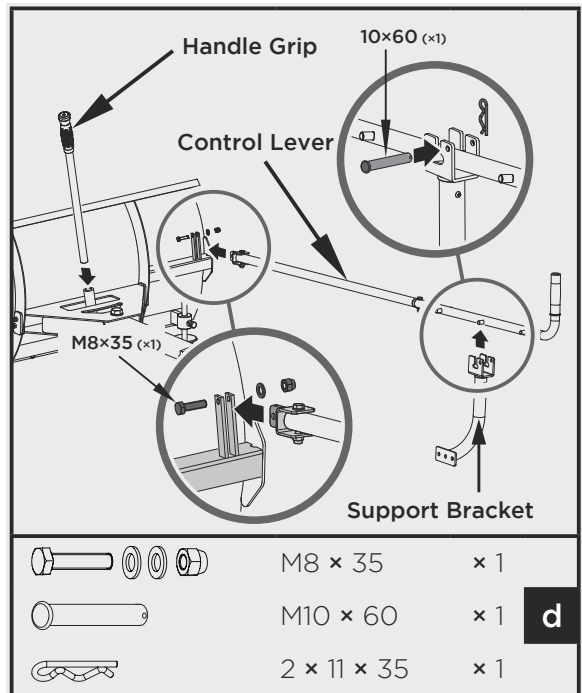

Figure 10
4. Attach control lever to the guide tube. Line up holes and fasten with M8×35 bolt, washers and nut (figure 10).
5. Insert the handle grip into the holder (figure 10).
6. Secure the support bracket into the control lever with pin 10×60 and bridge clip (figure 10).